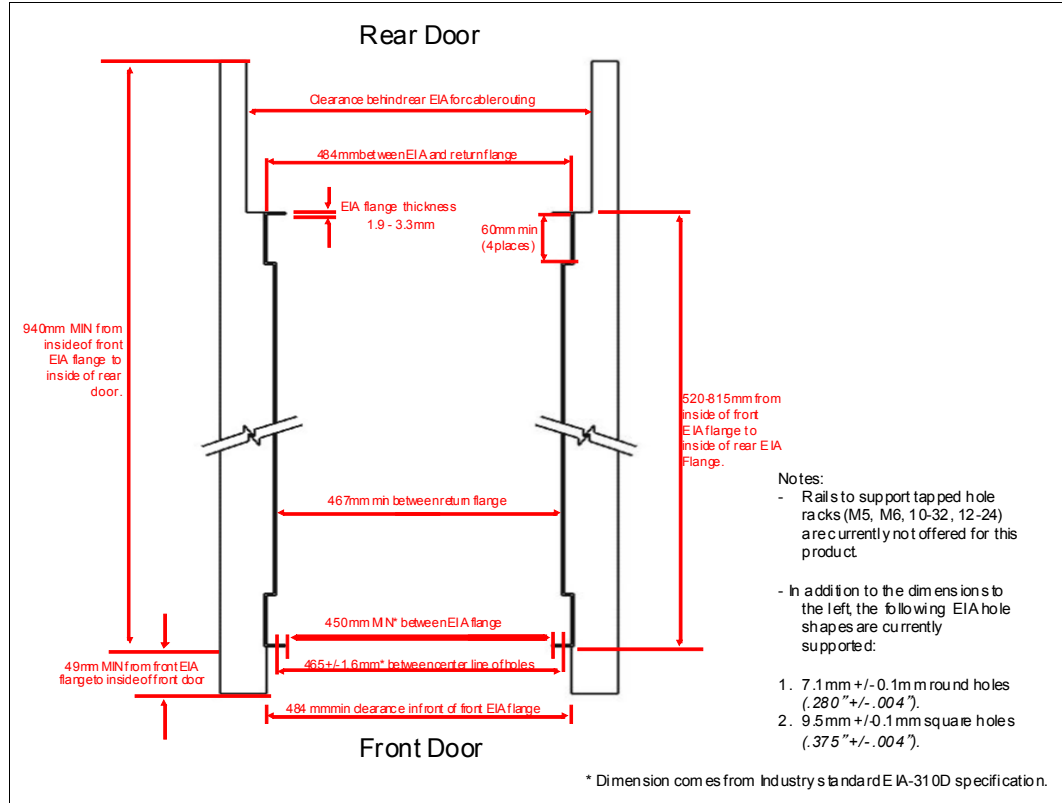

Figure 1-11 Rack specification dimensions - top front view
- The vertical distance between the mounting holes must consist of sets of three holes spaced (from bottom to top) 15.9 mm (0.625 in.), 15.9 mm (0.625 in.), and 12.67 mm (0.5 in.) on-center, making each three-hole set of vertical hole spacing 44.45 mm (1.75 in.) apart on center. Rail-mounting holes must be 7.1 mm \pm 0.1 mm (0.28 in. \pm 0.004 in.) in diameter. Figure 1-11 shows the top front specification dimensions.